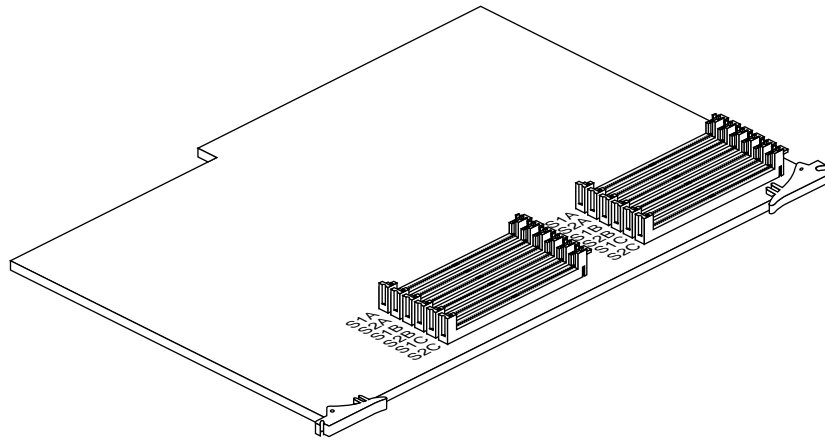

Figure 3-21 Orienting Yourself to the CPU Board
1. Orient the CPU board so the memory sockets are closest to you, as shown in Figure 3-21.